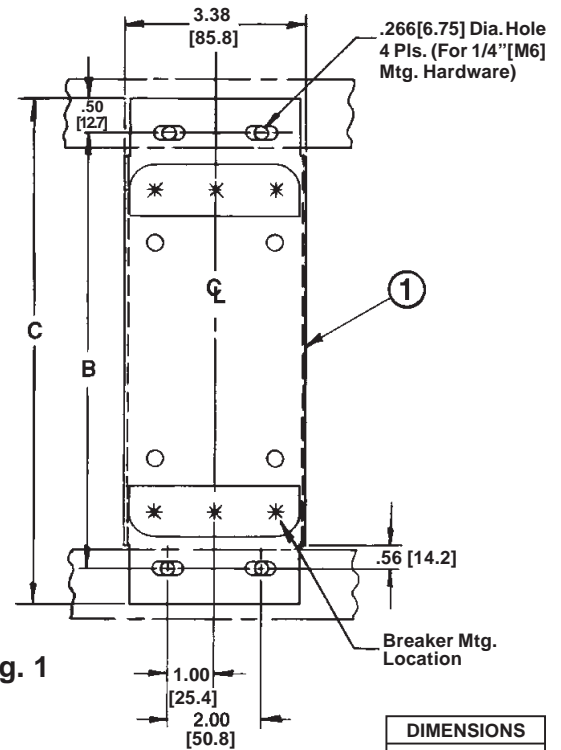

Fig. 1
Mounting Preparation: (Figs. 1 & 2)
2. If the switchboard mounting plate (1) is to be used, provided required drilling as shown in Fig. 1.